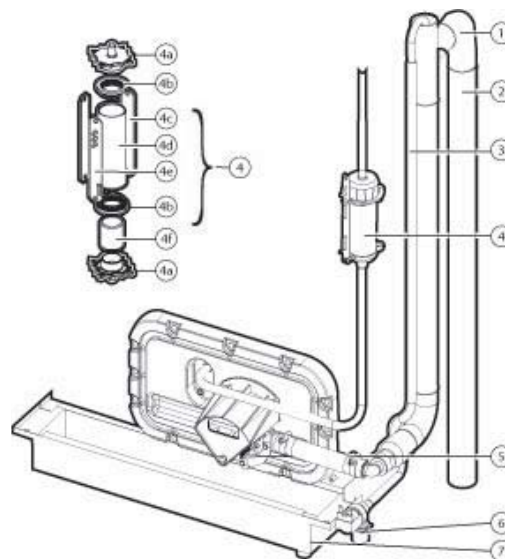

Fig. 17.e
- Fill electrovalve** (Fig. 17.d, part. no. 3 - Fig. 17.e, part. no. 6)
- Supply and drain manifold** (Fig. 17.d, part. no. 6)
- Drain electrovalve / drain pump** (Fig. 17.d, part. no. 5 - Fig. 17.e, part. no.5)
- Fill tank** (Fig. 17.d, part. no. 1)